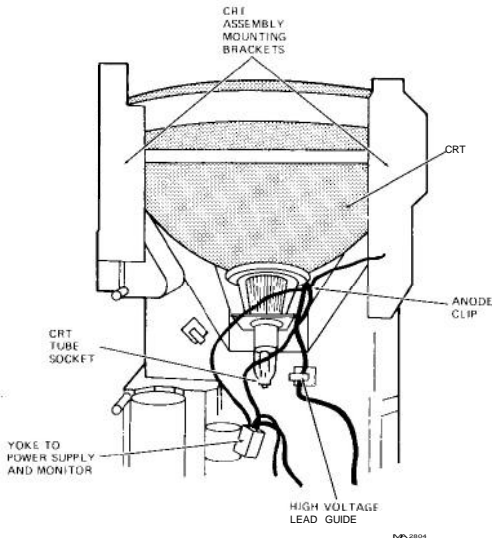

Figure 3-12 Removing and Replacing the CRT Assembly
3.10 REMOVING AND REPLACING THE CRT ASSEMBLY (Figure 3-12)